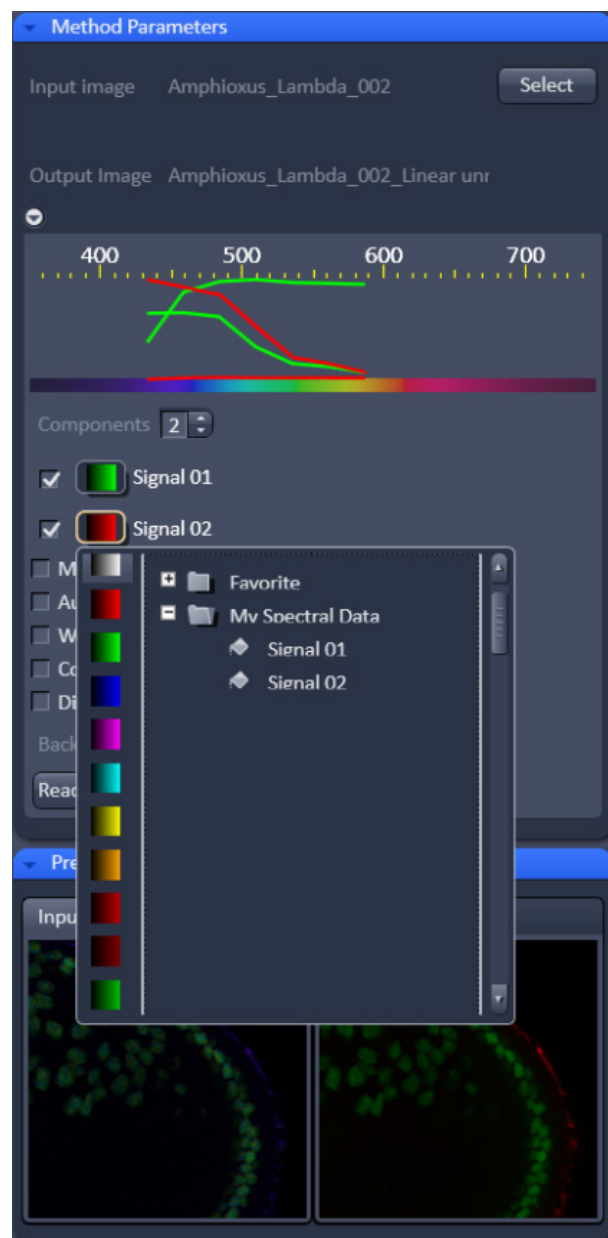

Fig. 123 Linear Unmixing - Spectra and LUT assignment
- Select the sample-specific fluorescence dye reference spectra from the **Spectra Database** (Fig. 123).
- Assign appropriate colors to the fluorescence channels by clicking on the color flag and choose from the available lookup tables (LUTs) (Fig. 123).